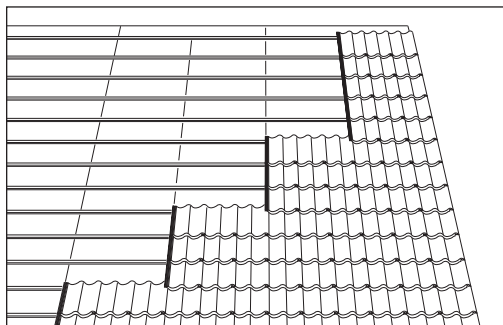

Fig 20 – Completion of tiling
- Work from right to left (Fig 20). Depending on fixing specifications, you may leave out third and fourth tiles from left-hand verge and make use of tile battens as a ladder enabling upper part of roof to be reached for fixing ridges.